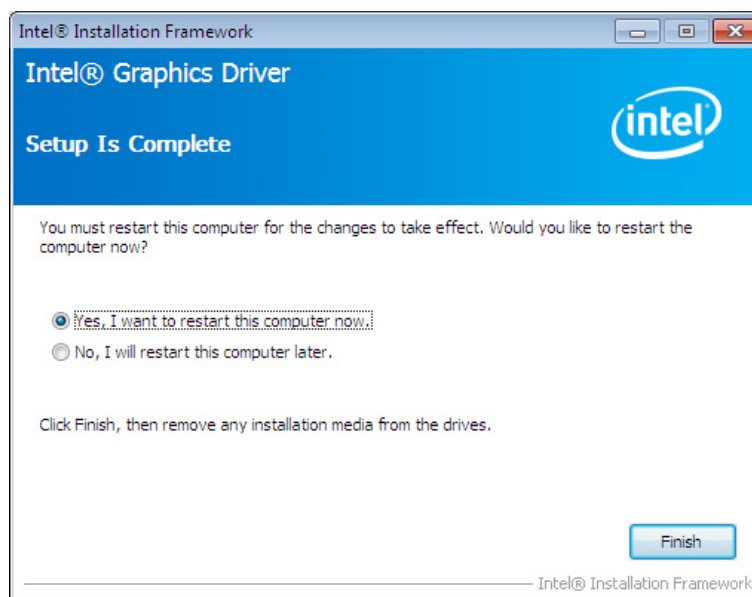

Figure 6-12: Graphics Driver Installation Finish Screen
Step 12: The Finish screen in Figure 6-12 appears. Select “Yes, I want to restart this computer now” and click **Finish**.